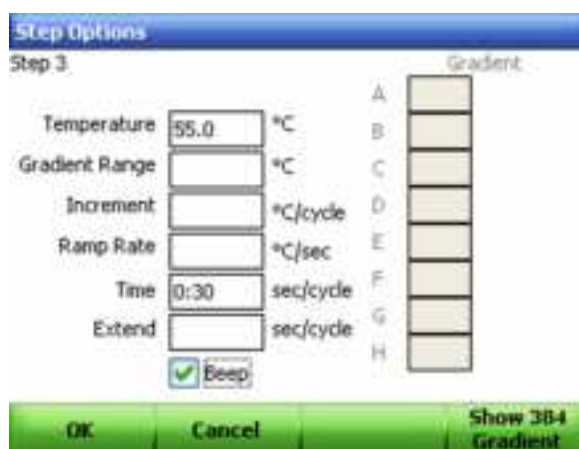

Figure 44. Select the Beep box.
2. Press **ENTER** to select the Beep box and press **OK** to confirm (Figure 44).